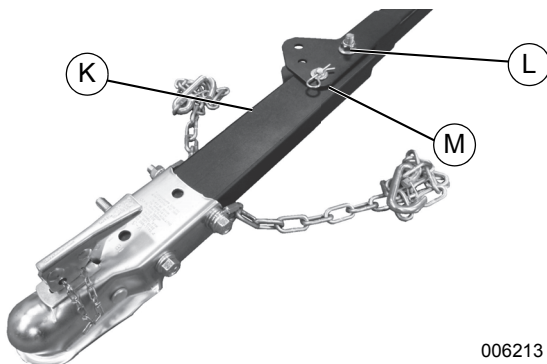

Figure 2-6. Receiver and Ball Hitch Extension
3. Loosely secure the front of the receiver with 1/2-13 x 5" bolt with washer and locknut with washer (F).
4. Loosely secure the rear of the receiver and safety chains with 1/2-13 x 5" bolt with washer and locknut with washer (G) with washers between safety chain.
6. See Figure 2-6. Install ball hitch extension (K) to tow bar with pivot bolt and locknut (L).